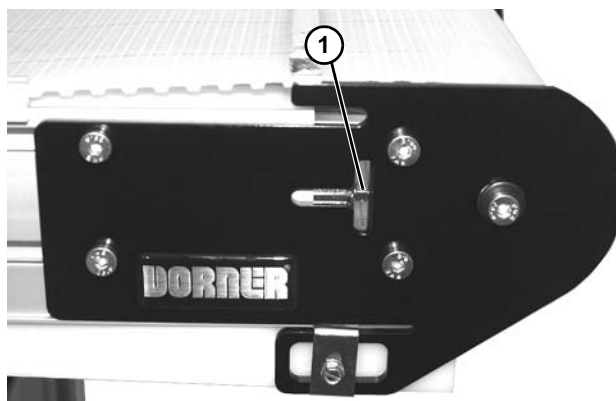

Figure 28
4. Extend head plate assembly until proper tension in the belt is achieved. If proper tensioning can not be obtained before the belt life indicator is all black (Figure 28, item 1) the belt must be replaced.